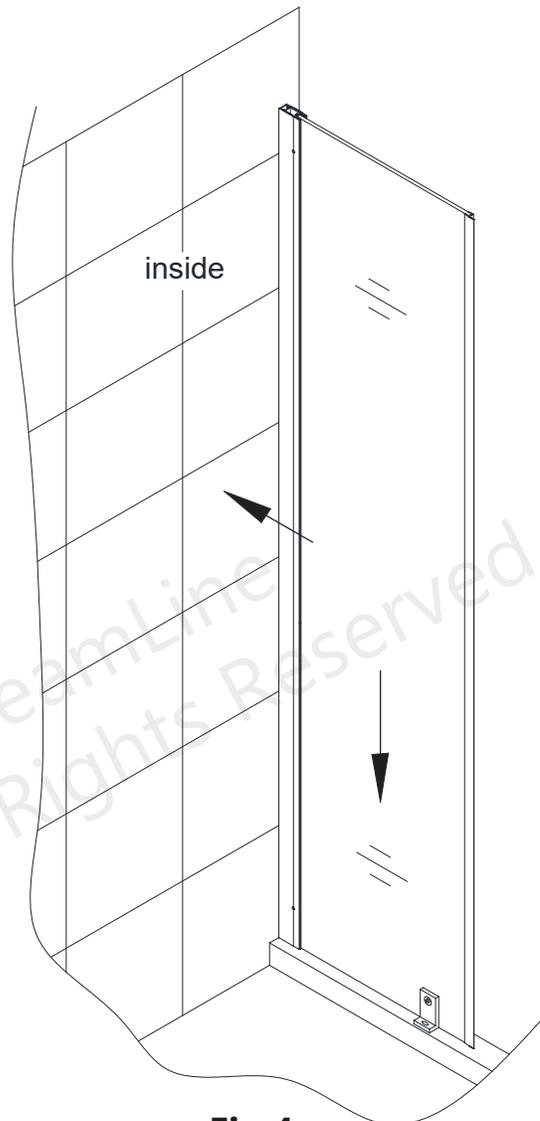

Fig 4
4. Carefully position the **assembled panel** onto the threshold and against the wall. Push the **Wall Profile (#09)** tight to the wall while holding the panel tight to the threshold. **(Fig 4)**